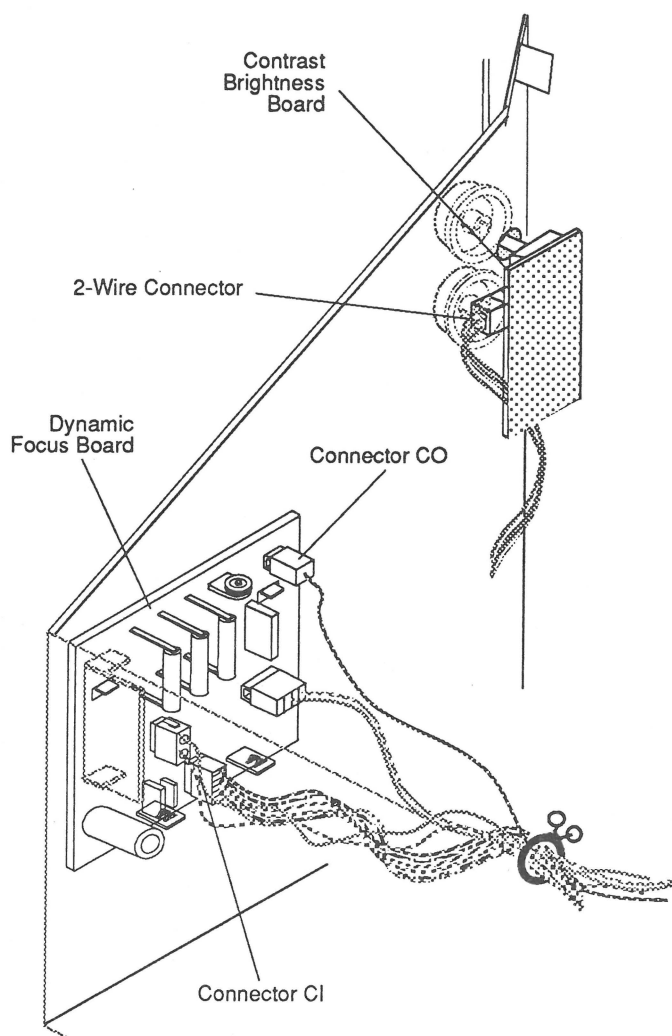

FIGURE 28
6. Disconnect the following connectors from the dynamic focus board (**Figure 28**):
7. Disconnect the 3-pin, 2-wire connector from the contrast brightness board (**Figure 28**).